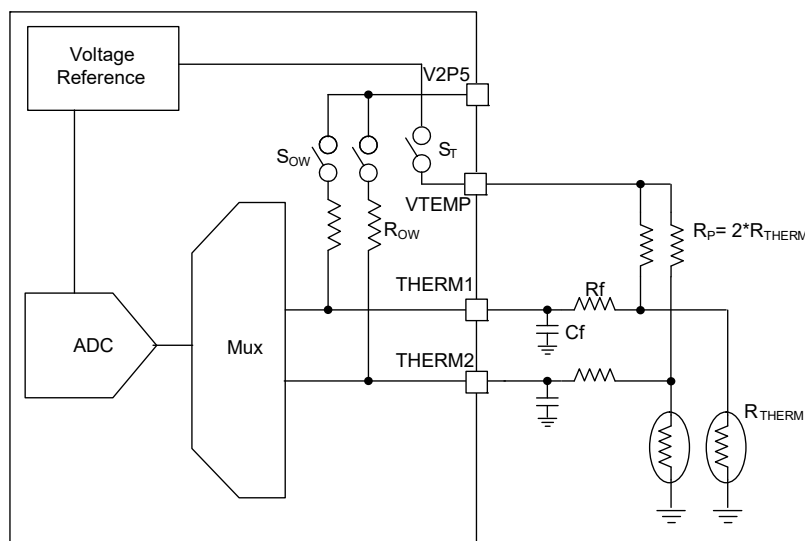

Figure 39. Thermistor Configuration
The THERMn pins (22, 24) are analog voltage inputs that connect to the external thermistor circuitry. These pins are optimized to work with external NTC thermistors to monitor the temperature of the battery pack. The thermistors are biased by the VTEMP output pin (23), as shown in Figure 39.
The thermistor pins are tested for open wires in the Self Test Loop of a Single System Scan. If the measured result exceeds threshold OWV_{therm} for two consecutive tests, the device sets the relevant bit 0x10.1 THERM2 OWF or 0x10.0 THERM1 OWF to 1. The thermistor and resistor divider network as shown in Figure 39 must be chosen to remain below the Open Wire threshold over the range of operation.